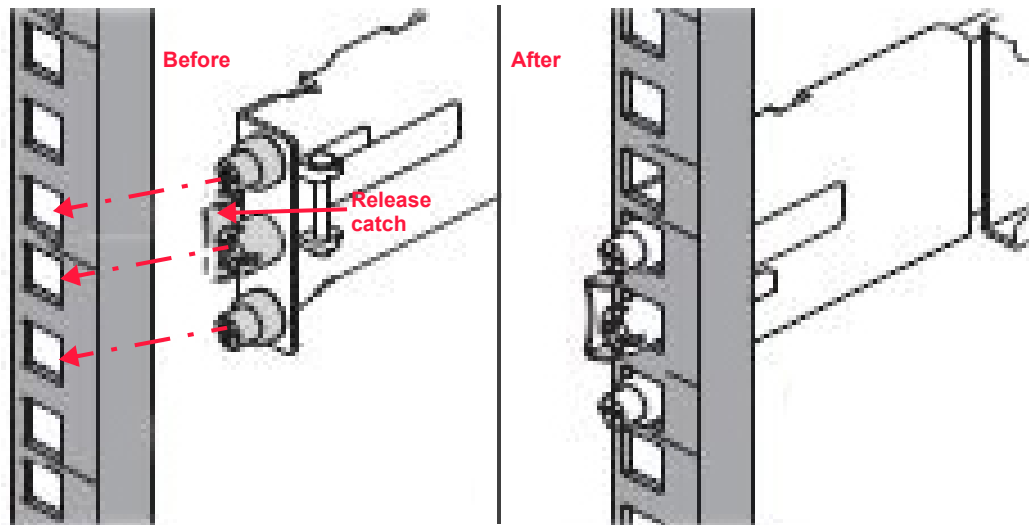

Figure 4.17 Install the front bracket
5. Push and hold the release catch outward (see Figure 4.17) and insert the left front bracket mounting screws into the left front rack post holes. Verify the rail is level.
6. Once the mounting screws are fully inserted into the rack post holes, release the catch to secure the rail to the post. Refer to the “After” image in Figure 4.17 for an illustration of a properly installed left front cabinet member bracket.